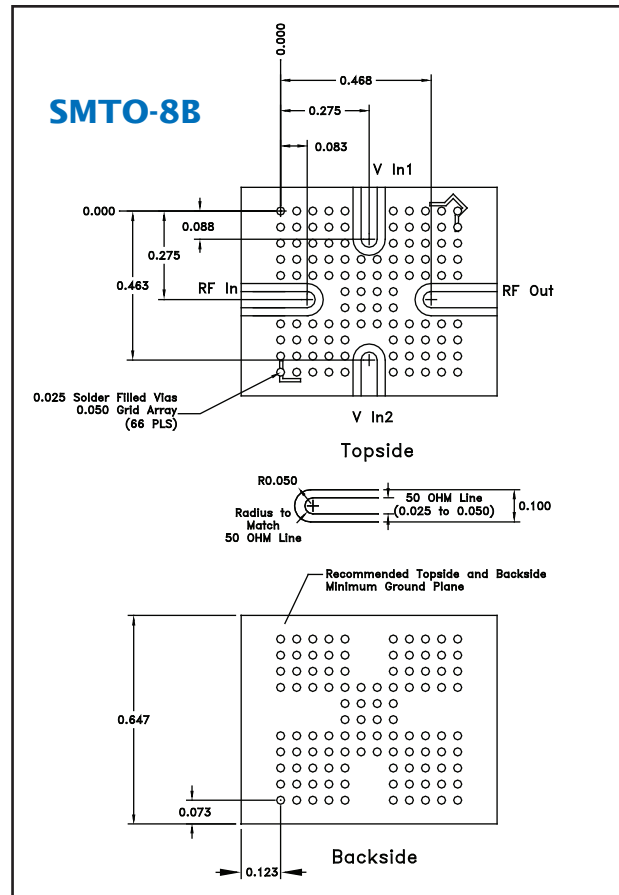

FIGURE 2. Recommended mounting layout for surface mount packages (SMTO-8B).
1) To facilitate integration, the traces on TMS's carrier mixers are tin plated or coated with a solderable alloy. When interfacing to a printed circuit board with a solderable trace, the simplest and most cost effective interface is made with a tin plated copper ribbon (Figure 2). The ribbon is first soldered to the interfacing trace, a small stress relief is formed, and the other end of the ribbon is soldered to the mixer trace. An exaggerated stress relief can cause performance degradation. The ribbon should be .010 to .150 inches wide (.254 to 3.81 mm) for an optimum interface.
MIXER APPLICATION FIGURE 2